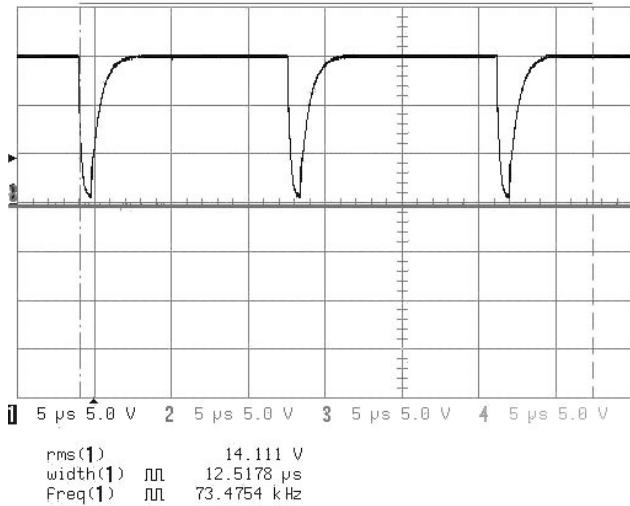

Figure 4.14 PFC Gate Switching at 60VDC
5. Using an external power supply apply 60VDC to J23 and verify that the frequency changes, as shown in Figure 4.14.